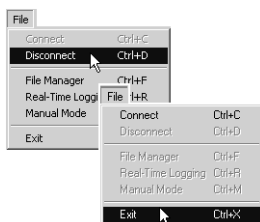

Figure 3-12. Click **Disconnect** then **Exit**
- Once the download completes, click **Exit** on the **File Manager** dialog box. Continue with other operations, or click **File ► Disconnect**, then **File ► Exit** to quit PC-CDU (Figure 3-12).